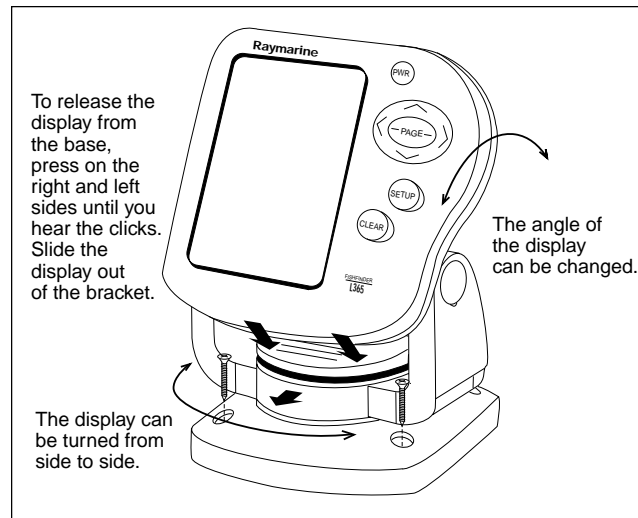

Fig. 2-9
You may mount the display unit on any flat surface using the bracket supplied. See Fig. 2-9. (There is also an optional kit which allows you to flush-mount the display in a flat panel or dashboard). Follow these instructions if you are using the standard mounting bracket:
2. Remove the display unit from the bracket by pressing on the large button in the center of the bracket. See Fig. 2-9.
See Fig. 2-9. To release the display from the bracket, press and hold down the left and right sides. You will hear an audible “click,” and the bracket will slide out.